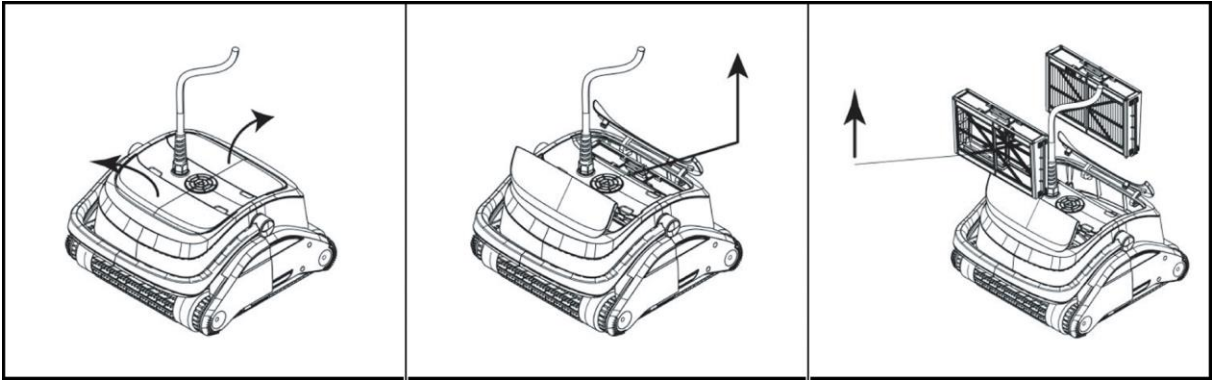

Fig. 5
- Open the two covers and remove the two filter baskets (Fig. 5).